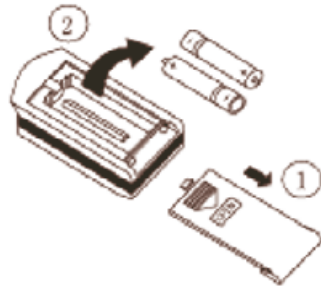

Fig 8.1
1) Slightly to press the place with  controller.(As show in Fig 8.1.)